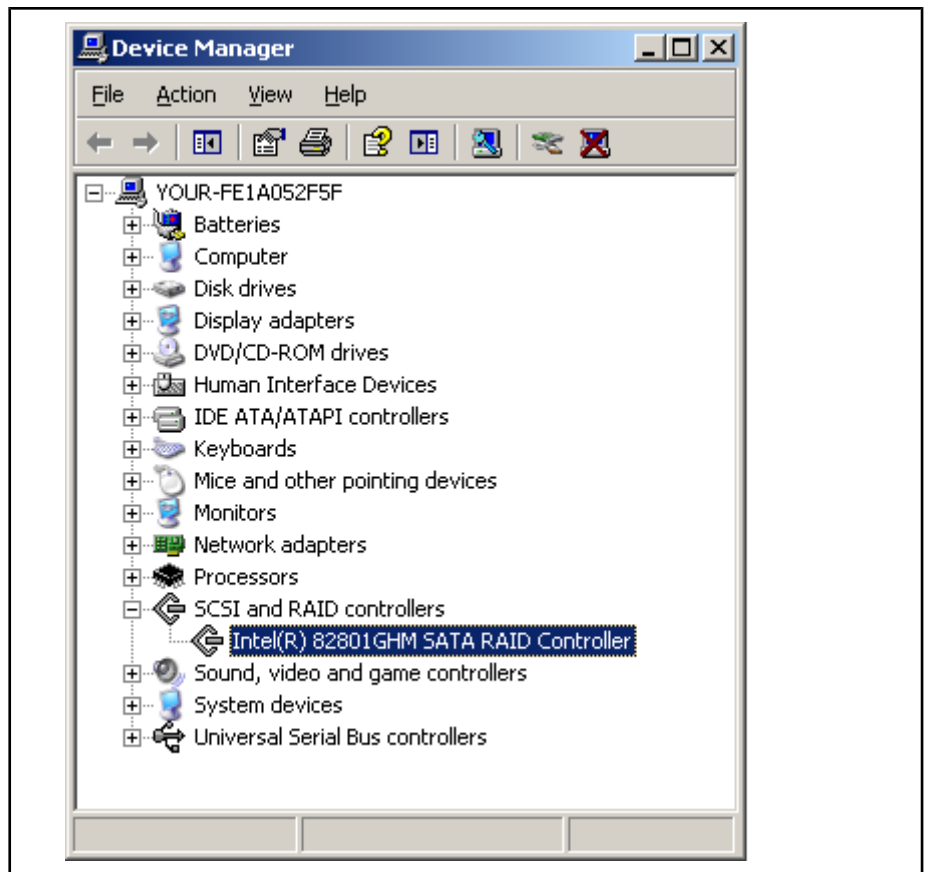

Fig.9-28: RAID controller in the device manager
"SCSI and RAID controllers" contains the "Intel(R) 82801 GHM SATA RAID Controller" entry, see fig. 9-28 "RAID controller in the device manager" on page 87.